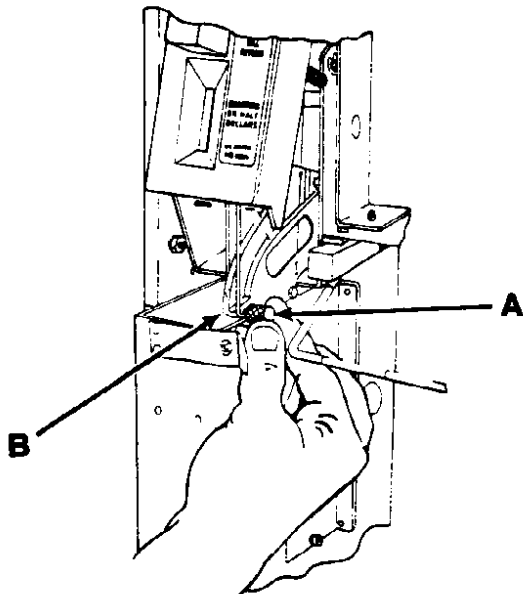
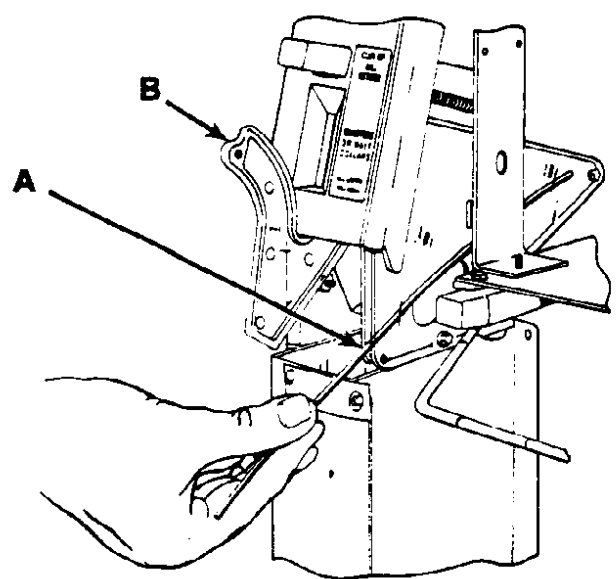

Figure 3-2. Removing the Coin Inlet Screw
Figure 3-3. Cleaning the Coin Inlet
1. Remove the screw (A) from the lower front side of the inlet as shown in *Figure 3-2*. Hold the tab as shown in *Figure 3-2*, reference B and rotate the clean-out guide up and out of the way as shown in *Figure 3-3*, reference B.
2. One side of the inlet is clear plastic to permit viewing the interior. Insert the end of a wire coat hanger (Figure 3-3, reference A) into the slot and drag out the jammed material through the front opening as shown in *Figure 3-3*.